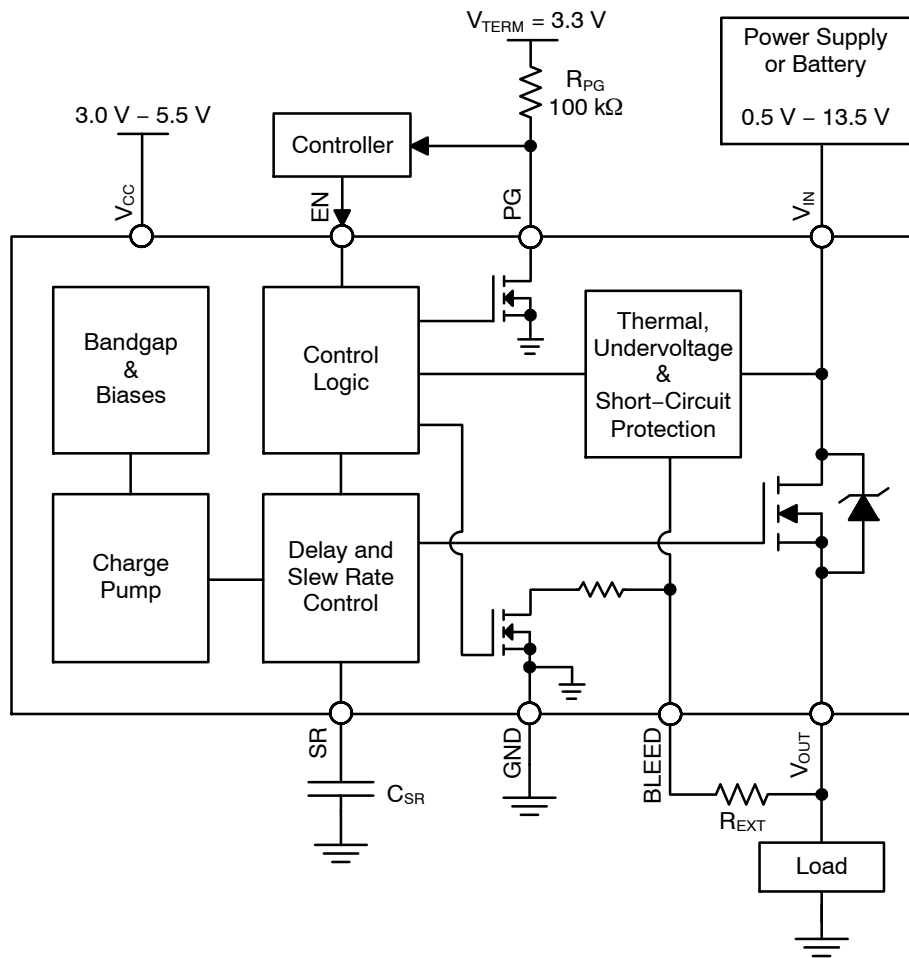
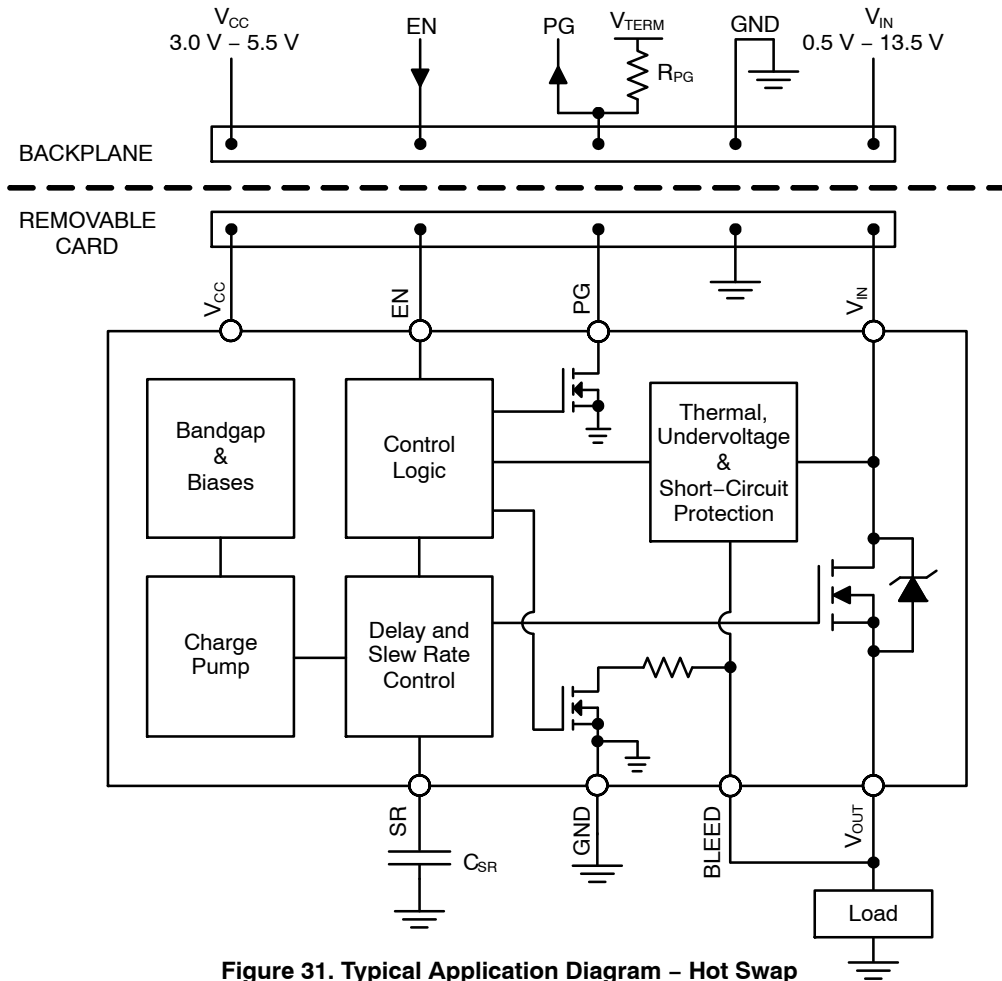

Figure 30. Typical Application Diagram – Load Switch
Figure 31. Typical Application Diagram - Hot Swap
It is required that the BLEED pin be connected to  $V_{OUT}$  either directly (as shown in Figure 31) or through an external resistor,  $R_{EXT}$  (as shown in Figure 30).  $R_{EXT}$  should not exceed 1 k $\Omega$  and can be used to increase the total bleed resistance.
The NCP45540 devices have a power good output (PG) that can be used to indicate when the gate of the MOSFET is fully charged. The PG pin is an active–high, open–drain output that requires an external pull up resistor,  $R_{PG}$ , greater than or equal to 1 k $\Omega$  to an external voltage source,  $V_{TERM}$ , compatible with input levels of other devices connected to this pin (as shown in Figures 30 and 31).
The slew rate can be decreased with an external capacitor added between the SR pin and ground (as shown in Figures 30 and 31). With an external capacitor present, the slew rate can be determined by the following equation:
Once active, the circuitry monitors the difference in the voltage on the  $V_{IN}$  pin and the voltage on the BLEED pin. In order for the  $V_{OUT}$  voltage to be monitored through the BLEED pin, it is required that the BLEED pin be connected to  $V_{OUT}$  either directly (as shown in Figure 31) or through a resistor,  $R_{EXT}$  (as shown in Figure 30), which should not exceed 1 k $\Omega$ . With the BLEED pin connected to  $V_{OUT}$ , the short–circuit protection is able to monitor the voltage drop across the MOSFET.